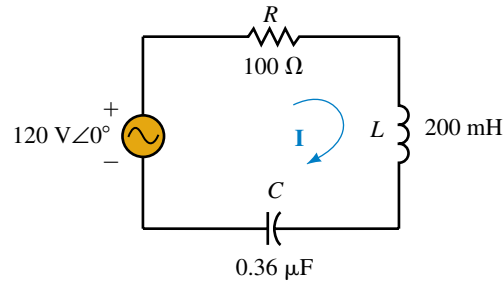

FIGURE 21-55
11. Refer to the circuit of Figure 21-55.